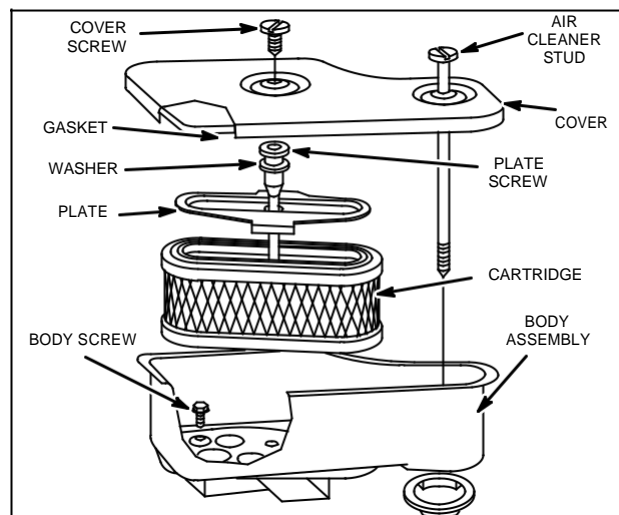

Fig. 117 - REVERSE FLOW CARTRIDGE AIR CLEANER, VERTICAL CRANKSHAFT
1. Re-assemble air cleaner as shown in Fig. 117.